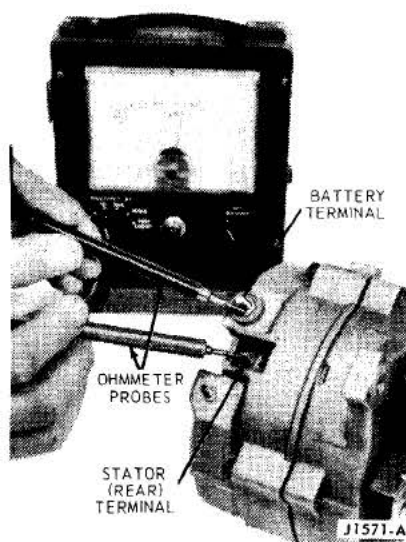

FIG. 5 Rectifier Short or Grounded and Stator Grounded Test
1. Contact one ohmmeter probe to the alternator BAT terminal (Fig. 5) and the other probe to the STA terminal (rear blade terminal). Then, reverse the ohmmeter probes and repeat the test. A reading of about 60 ohms should be obtained in one direction and no needle movement with the probes reversed. A reading in both directions indicates a bad positive diode, a grounded positive diode plate or a grounded BAT terminal.